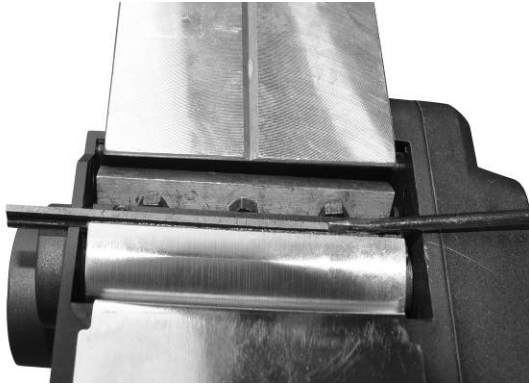

Fig.10
- 6.Push the first blade out of the blade holder by using a small piece of wood or hex key(Fig.10). Do not attempt this by hand.